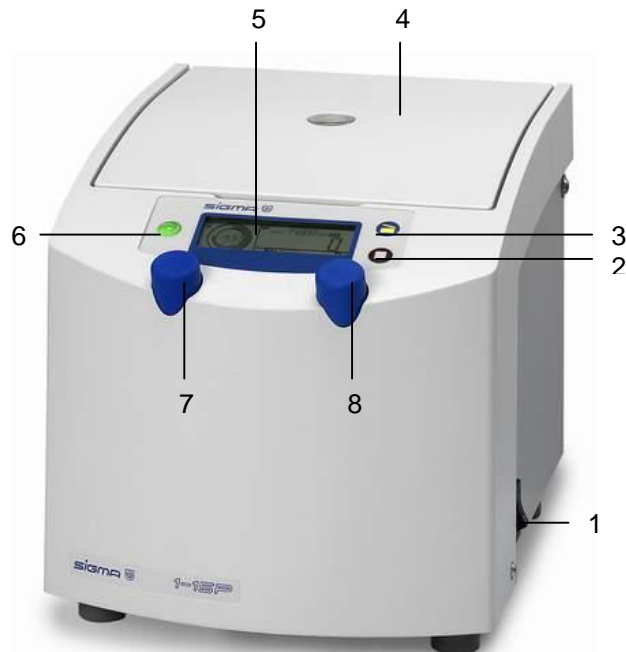

Fig. 5.1: Total view of the centrifuge
- Press the mains power switch on the right side of the front (see Fig. 5.1, page 23).